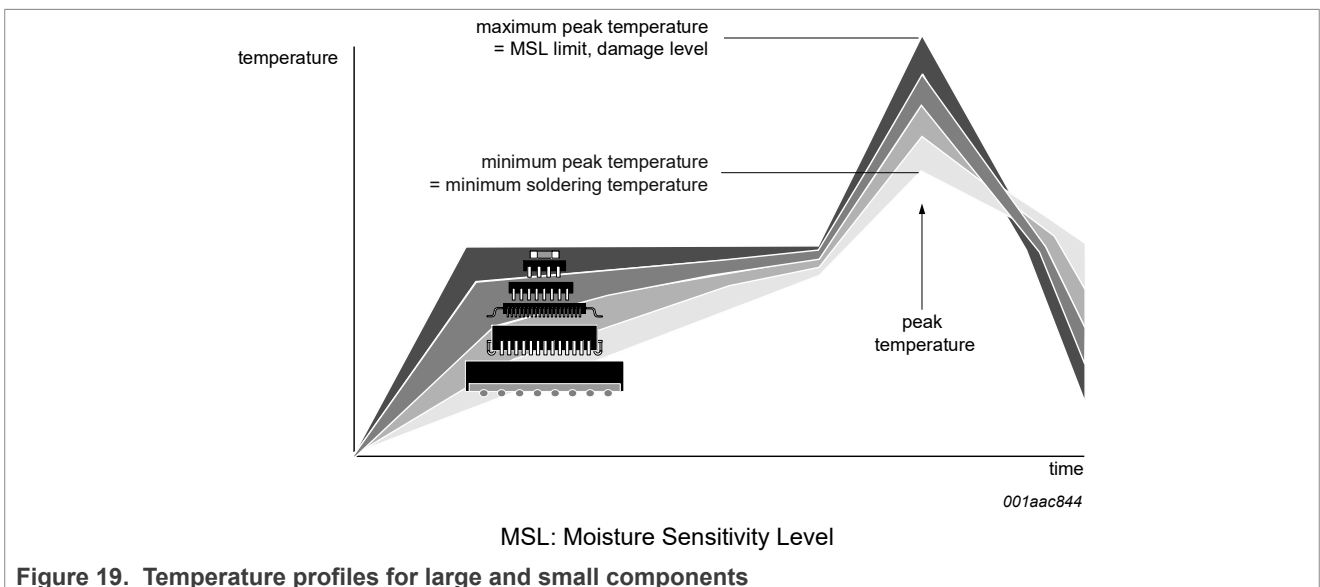

Figure 19. Temperature profiles for large and small components
- Lead-free versus SnPb soldering; note that a lead-free reflow process usually leads to higher minimum peak temperatures (see Figure 19) than a SnPb process, thus reducing the process window
Studies have shown that small packages reach higher temperatures during reflow soldering, see Figure 19.